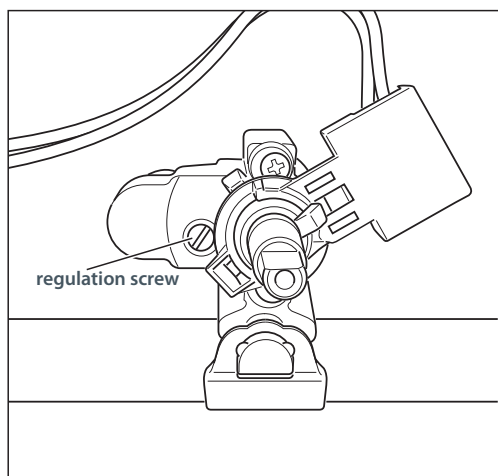

Fig. 17 Adjusting the minimum burner setting: semi-rapid and triple-ring wok burner
- 4 Using a small flat screwdriver, turn the screw (see Fig. 17) to the correct regulation.